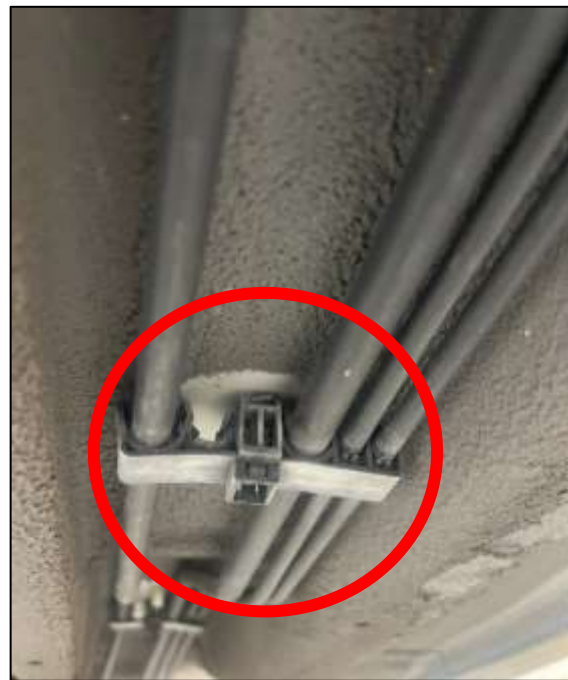

Figure 43
6. On the underside of the vehicle there will be several OE hardline retaining clips (shown below). The 4th clip from the rear will be removed and replaced with the Z1 External Fuel Filter Mounting Bracket. Remove the 4th clip (shown below with an arrow) from the vehicle by pulling down. *Figure 43.*